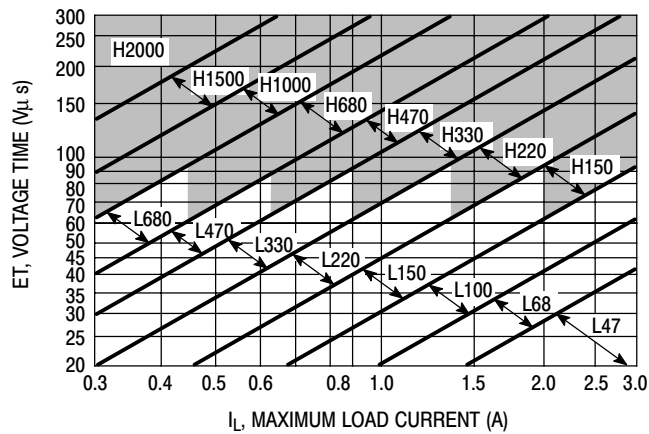

Figure 22. LM2576-ADJ
4. Inductor Selection (L1) A. Use the following formula to calculate the inductor Volt x microsecond [V x μs] constant: $E \times T = (V_{in} - V_{out}) \frac{V_{out}}{V_{in}} \times \frac{10^6}{F[\text{Hz}]} \text{ [V x } \mu\text{s]}$ B. Match the calculated E x T value with the corresponding number on the vertical axis of the Inductor Value Selection Guide shown in Figure 22. This E x T constant is a measure of the energy handling capability of an inductor and is dependent upon the type of core, the core area, the number of turns, and the duty cycle. C. Next step is to identify the inductance region intersected by the E x T value and the maximum load current value on the horizontal axis shown in Figure 25. D. From the inductor code, identify the inductor value. Then select an appropriate inductor from Table 2. The inductor chosen must be rated for a switching frequency of 52 kHz and for a current rating of $1.15 \times I_{Load}$. The inductor current rating can also be determined by calculating the inductor peak current: $I_{p(max)} = I_{Load(max)} + \frac{(V_{in} - V_{out}) t_{on}}{2L}$ where t_{on} is the "on" time of the power switch and $t_{on} = \frac{V_{out}}{V_{in}} \times \frac{1.0}{f_{osc}}$ For additional information about the inductor, see the inductor section in the "External Components" section of this data sheet.	4. Inductor Selection (L1) A. Calculate E x T [V x μs] constant: $E \times T = (25 - 8.0) \times \frac{8.0}{25} \times \frac{1000}{52} = 80 \text{ [V x } \mu\text{s]}$ B. E x T = 80 [V x μs] C. $I_{Load(max)} = 2.5 \text{ A}$ Inductance Region = H150 D. Proper inductor value = 150 μH Choose the inductor from Table 2.